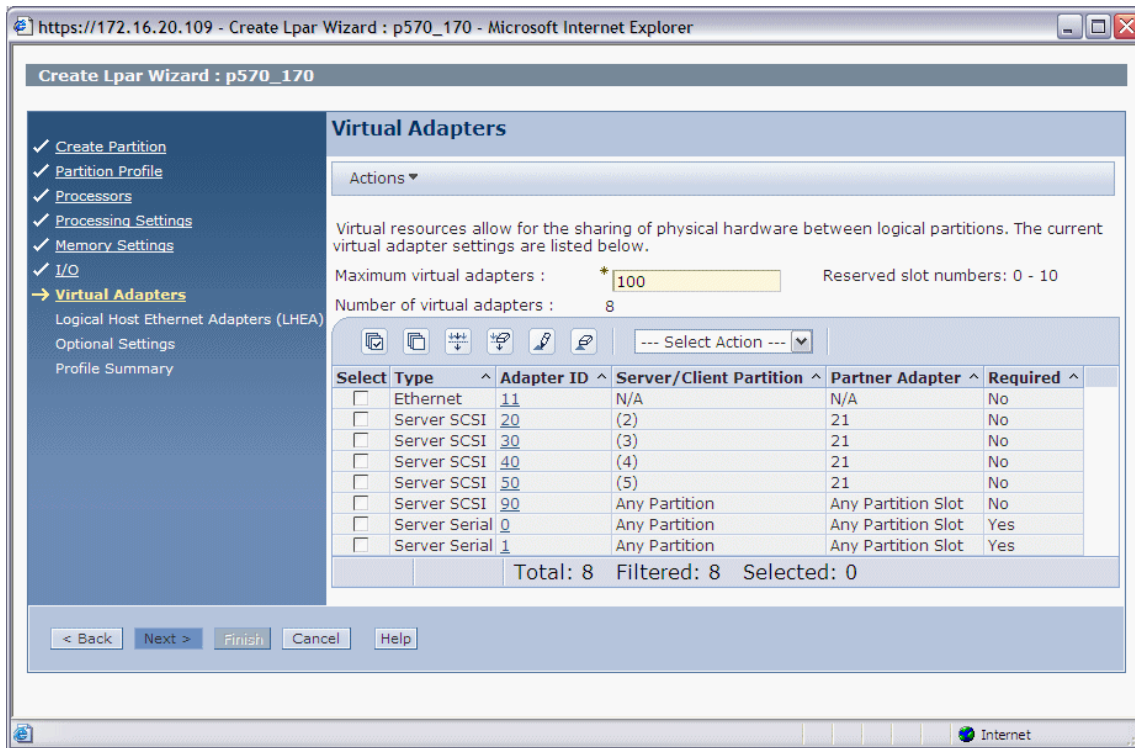

Figure 12-15 HMC List of created virtual adapters
13. Repeat step 12 to create the SCSI server adapters for the rest of the client partitions according to Figure 12-1 on page 312. Figure 12-15 shows the list of created virtual adapters and their slot numbers. Click **Next** to continue.